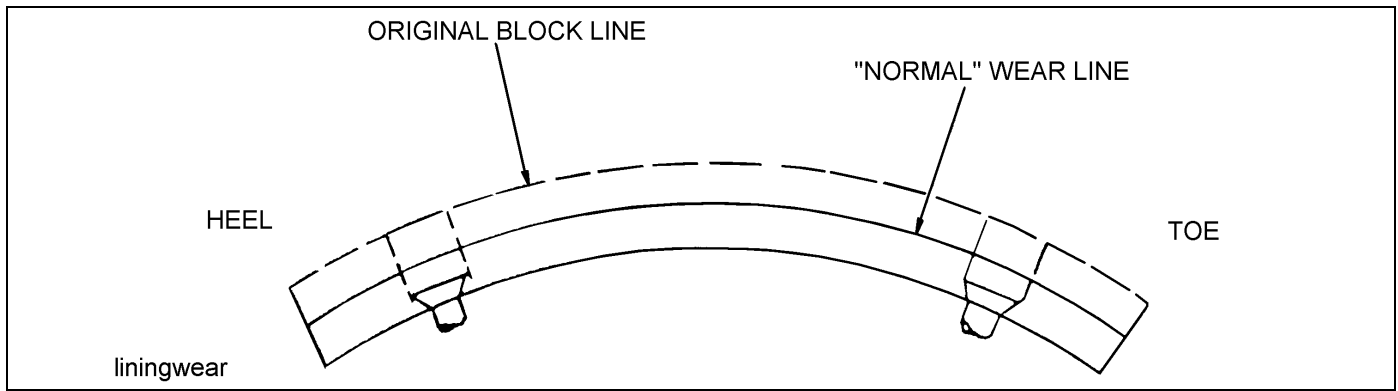

Figure 4-7: Brake Lining Wear
3. Check brake linings for excessive wear or distortion (**See Figure 4-7.**)
The brake assemblies should be inspected and adjusted every 2,000 miles or monthly. Examine the brake linings visually to locate the lining showing the greatest amount of wear. The wheel and drum should be removed and the linings replaced if the thinnest portion of the lining is 3/8 in. (9.5 mm) or less. Do not allow the linings to wear thin enough that the lining rivet contacts the drum. (See Figure 4-7.)